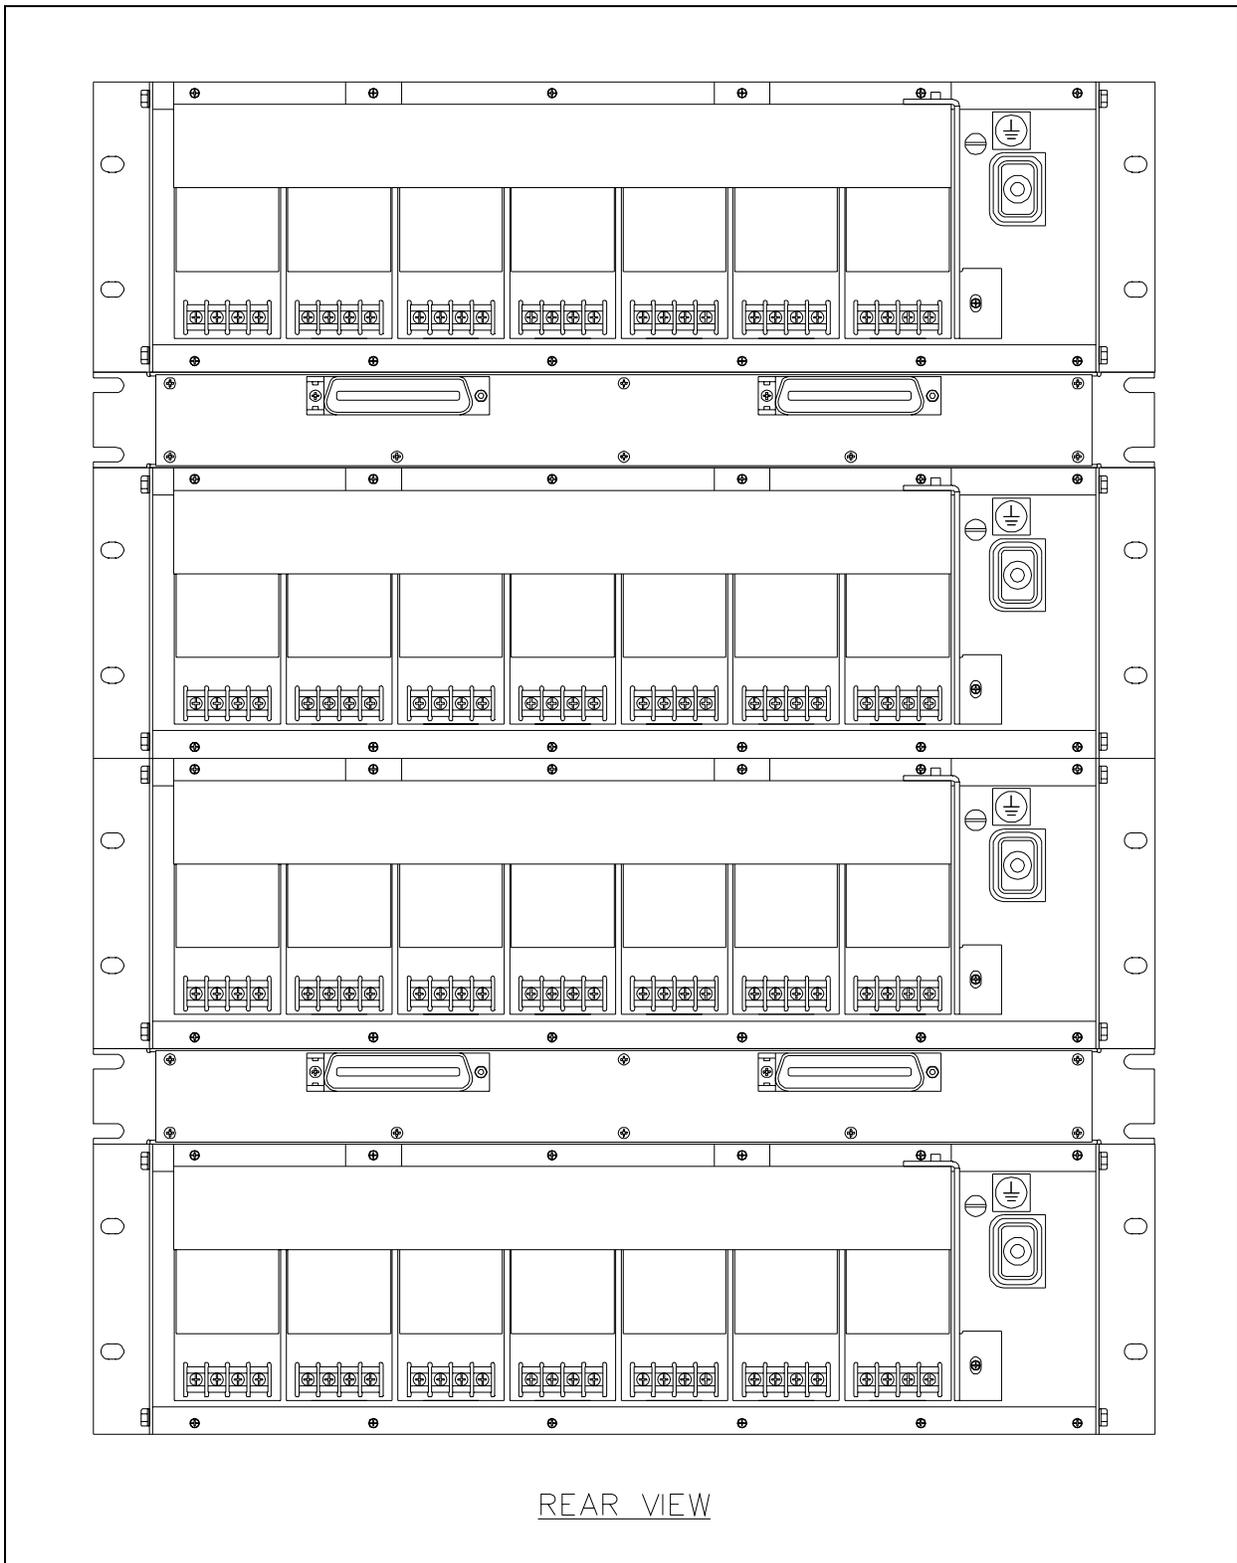

Figure 2. Typical Mechanical Configuration for Rack Mount System - Rear View
5. Wire the central office (CO) or PBX lines to a punch-down block (66) near the cabinet. Then wire the appropriate conductors from the 25-pair patch panel harness assembly to the punch-down block. Refer to Figure 2. Verify that the wired pairs are from the connectors used in the patch panel. This can be verified by checking the color coding of the harness assembly wires.